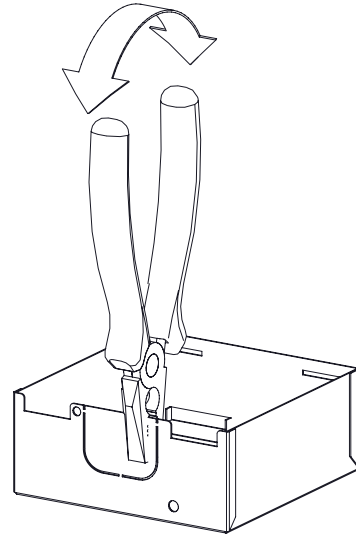

Figure 3
7. Remove the conduit tab cover by wiggling it out. (See Figure 3)